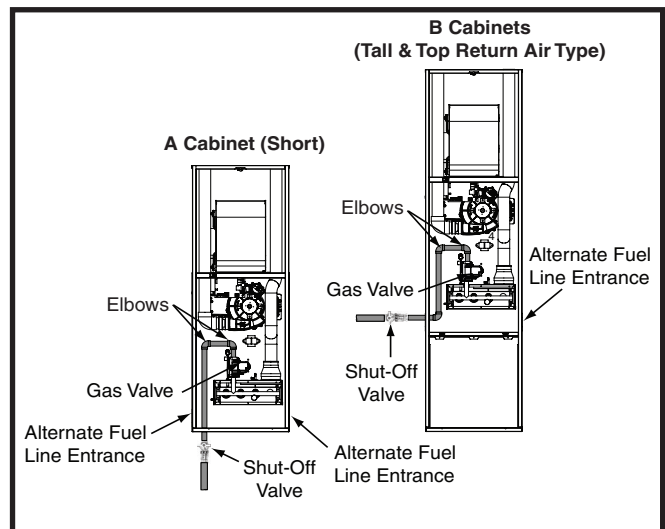

Figure 18. Typical Gas Connections
- Some local regulations require the installation of a manual main shut-off valve and ground joint union external to the furnace as shown in **Figure 18**. The shut-off valve should be readily accessible for service and/or emergency use. Consult the local utility or gas supplier for additional requirements regarding placement of the manual main gas shut-off.
The furnace is installed with a bottom gas entry. When connecting the gas supply, provide clearance between the gas supply line and the entry hole in the furnace casing to avoid unwanted noise and/or damage to the furnace. Typical gas hookups are shown in Figure 18.